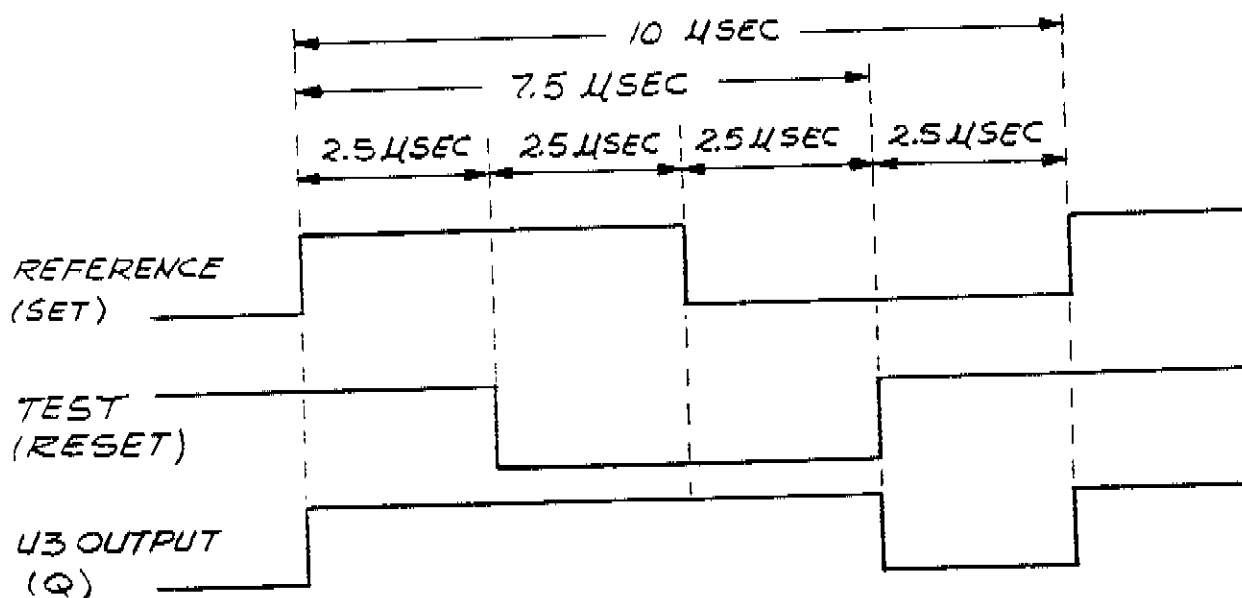

Figure D3-40B. U3 Flip-Flop Phase Detector Operation for +90° Phase Difference
U3 flip flop phase detector is an ECL flip flop with edge sensitive SET (S) and RESET (R) inputs. On the rising edge of the SET input (Reference) the Q output will go high and on the rising edge of the RESET input (Test) the Q output will return low as shown in the timing diagram (Figure D3-40B). The Q output pulse width is the difference between the leading edges of the two IF input square waves. So as the phase difference between the 100 kHz IF inputs changes from -180 degrees to +180 degrees, the Q output will change from a narrow pulse to a pulse almost as wide as the time period for 100 kHz (10 µsec). The Q output pulse width is then a direct linear function of the phase shift between the reference and test IF inputs.